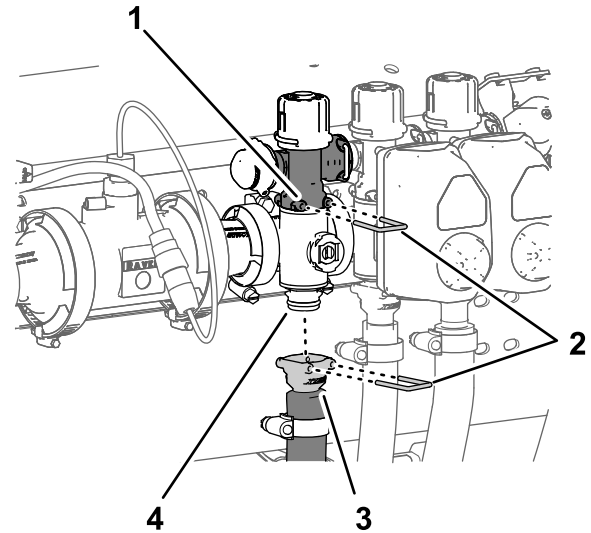

Figure 106
1. Remove the quick-connect pin that secures the quick-connect coupler for the section-bypass valve to the section-manifold valve (Figure 106).
2. Remove the quick connect pin that secures the quick-connect coupler for the section supply hose to the manifold for the quick-connect fitting of the section-manifold valve (Figure 106).